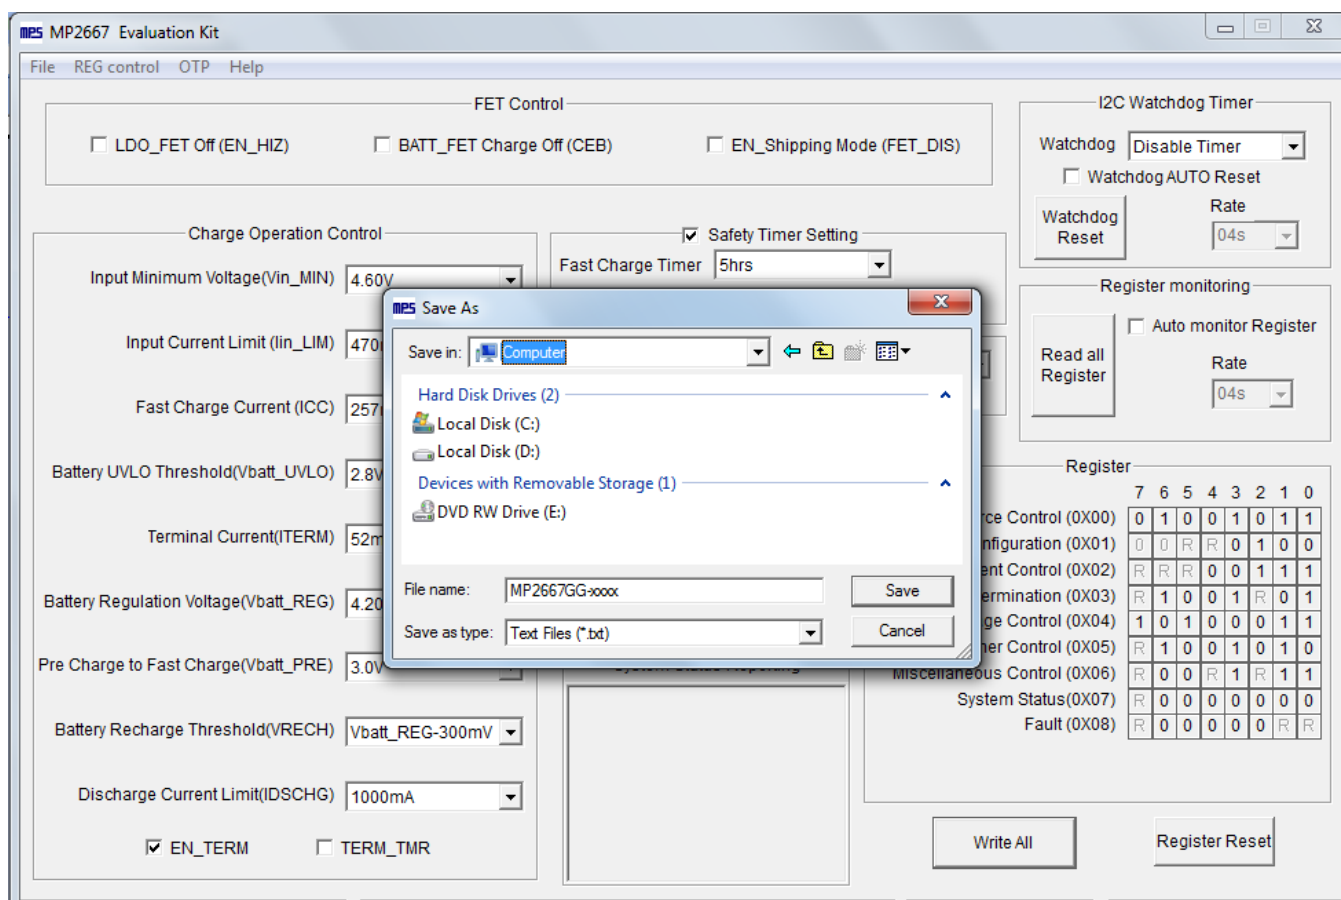

Figure 11: Various Locations Available to Export To
- Find a location for the exported file, and click “Save.” The customized configurations will be saved in a .txt file (see Figure 11).